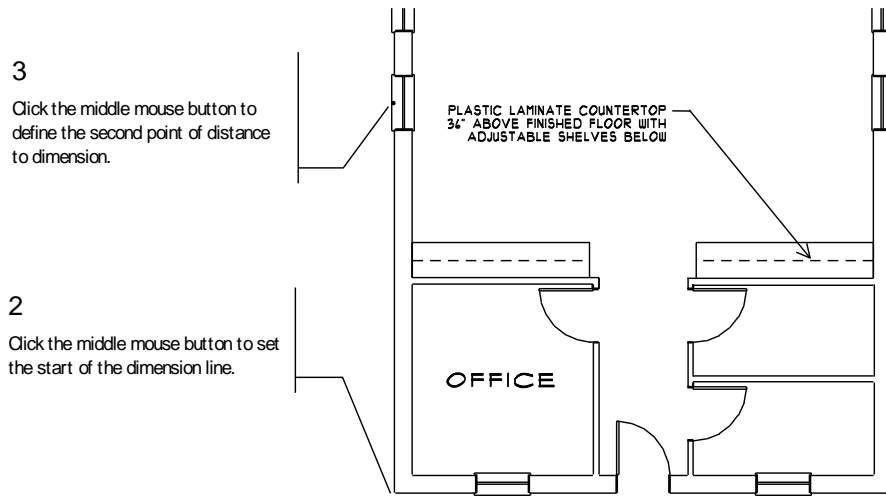

Figure 4.9: Placing the first dimension on the drawing.
2. Move the cursor to the lower left corner of the exterior wall and click the middle mouse button or press (N) on the keyboard to object snap to the corner. You are prompted to *Select second point of distance to dimension.*
3. Move the cursor to the snap point of the window shown in Figure 4.9 and click the middle mouse button to snap to it. You are prompted with *Dimension which side of line?*